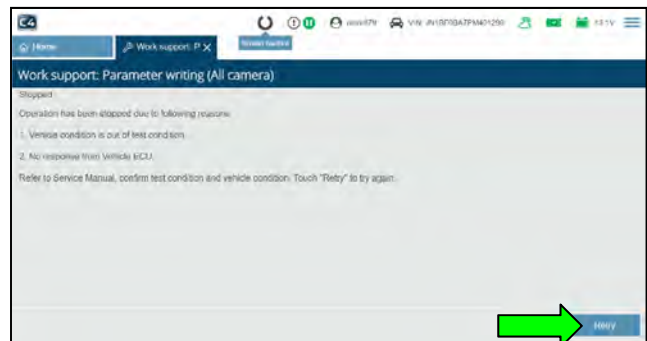

Figure 17
- If the **Parameter writing** was not successful (Figure 17):